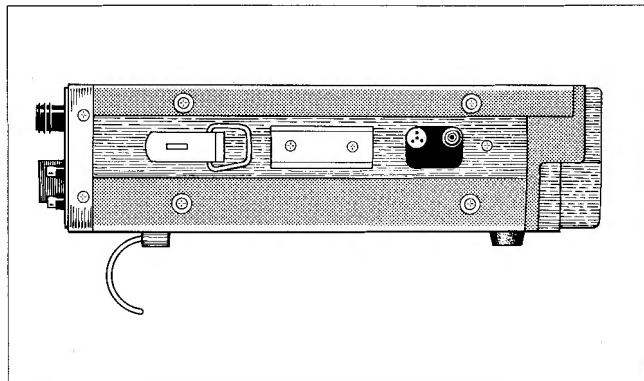

Fig. 6 Use of Stand-off Bracket
2. An alternative way of obtaining power is to plug the cigar lighter arranged in most vehicles. Such a plug, shown in Fig. 6, is available at auto accessory shops or electronics parts stores.
If you operate the TR-7400A as a fixed station, attach the supplied Stand-off bracket (25) to it as illustrated in Fig. 6. The TR-7400A is designed so as to be used with a DC power supply having a current capacity of around 10A at the rated operating voltage of 13.8V.